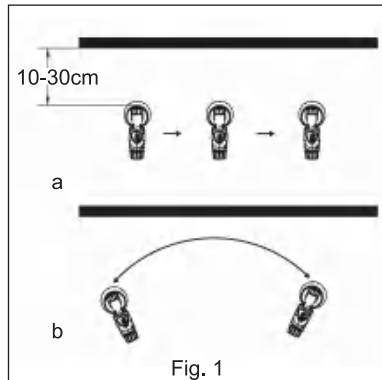

Fig. 1
• **Correct (Fig. 1 a):** Be sure to hold the spray gun at an even distance of approx. 10- 30cm to the target object.
• **Incorrect (Fig. 1 b):** Heavy spray fog build-up, uneven surface quality.